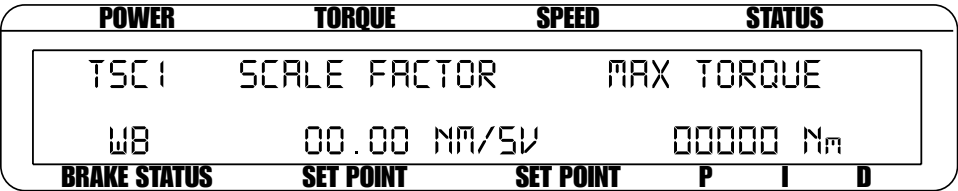

Figure 3–28 TSC1 Eddy-Current Setup Menu
- 6. Press SHIFT 2 times. The display should appear as shown in *Figure 3–19 Nominal Speed Setup Menu*.